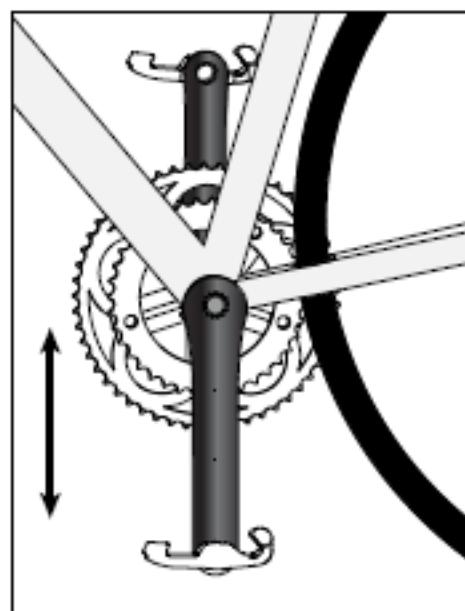

FIG 8
The left crank arm with power meter MUST be positioned straight down (6 o'clock position) and ensure there is no load on the pedals and the bike is stable. See FIG 8 for a visual reference. If the left crank arm is not straight down the reset procedure for zero offset will fail.
2. Position the crank straight down (6 o'clock position) FIG 8, and the bike is stable.
32	Power meter crank not in proper position (straight down) see FIG 8.